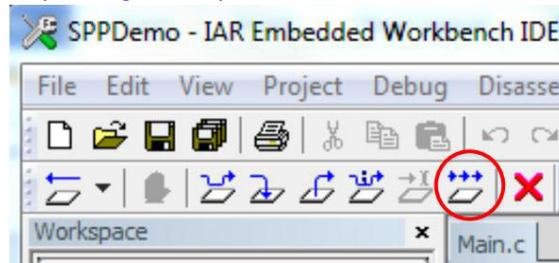

Figure 7-4. The GO Button
13. Click the GO button in the IAR (see Figure 7-4).